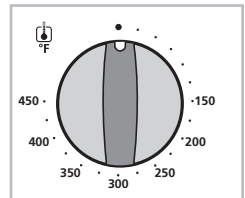

Figure 2
2. **Temperature Control dial** – Adjust the thermostat to the desired temperature. (See Figure 2)